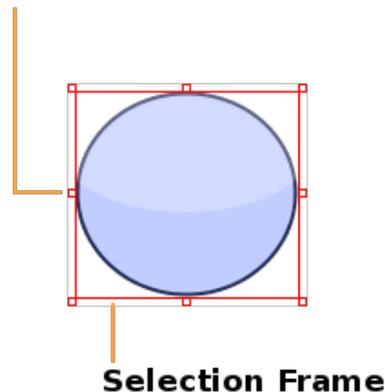

Figure 2.18. Handles and Selection Frame
- **Handle Size** - This value sets the size of “handles,” or the boxes that are drawn in the selection frame. It defaults to 5. See Figure 2.18, “Handles and Selection Frame”.